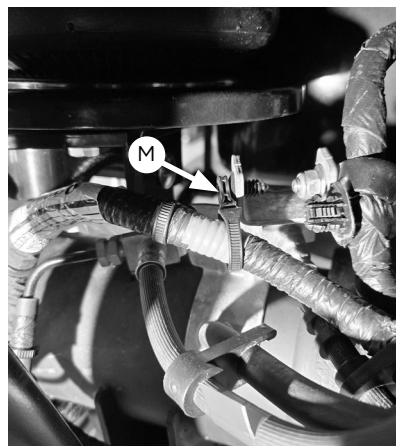

Fig. 40
- Secure the upper portion of the left ABS harness to the previously bent bracket using (1) 90-degree treemount (M) (Fig. 40).